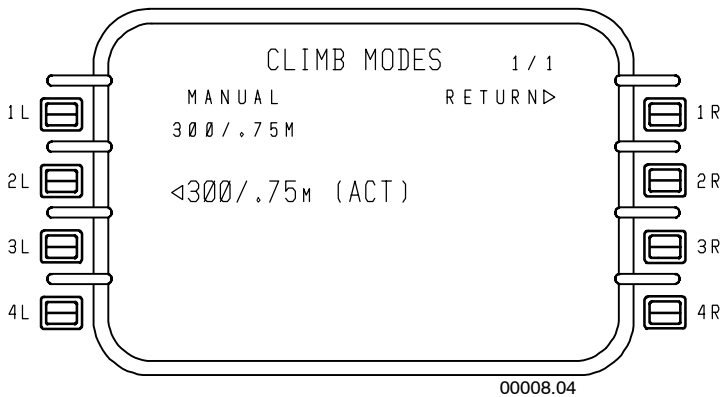

Figure 5-10
- **1R, 2R, and 3R** – Selecting one of the OR prompts will display the CLIMB, CRUISE, or DESCENT MODES page, respectively, as shown in Figures 5-10 through 5-12.
- **CLIMB MODES** – Figure 5-10 is available only when using FULL PERF. The page shows both the manual and default speed schedule as well as which schedule is active.